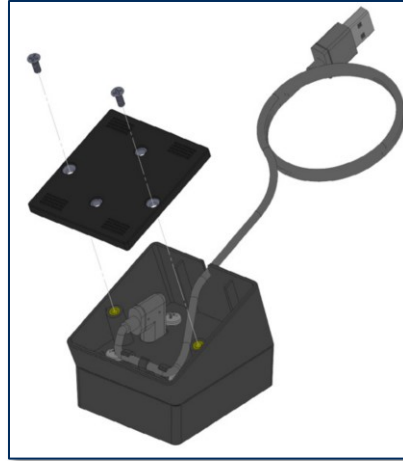

Figure 4-15 – Baseplate Installation
3. Align the assembly base plate and using the (2) flat-head screws, screw the base plate to the stand body. See **Figure 4-15 – Baseplate Installation**.